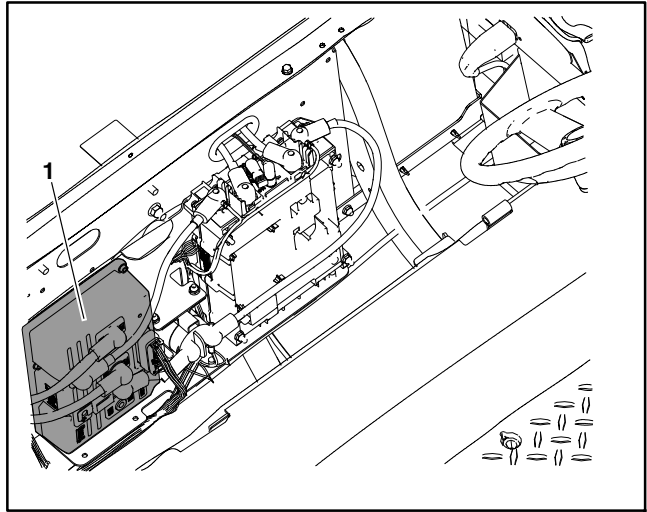

Figure 14
The SC2: traction controller is secured to the seat base rear panel (Fig. 14). The controller uses inputs from several vehicle components to accurately control vehicle speed, direction (forward and reverse) and regenerative braking. Controller inputs include key switch, direction selector switch (forward/reverse), accelerator pedal, mode switch, traction motor thermistor (temperature), traction motor encoder (speed sensor) and parking brake. A single wire harness connection and five (5) cables are used to connect the controller to the vehicle electrical system. The traction controller is also connected to the CAN bus.